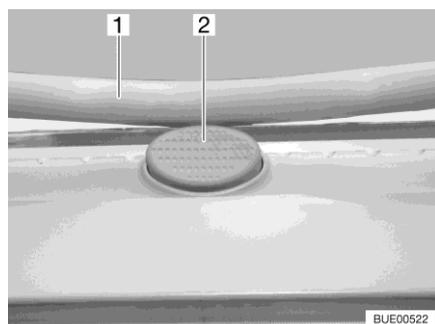

Fig. 86 Safety knob (Heki skylight)
- Press the safety knob (Fig. 86,2) and pull the bar (Fig. 86,1) down with both hands.
- Push the bar upwards with both hands until it is above the safety knob (Fig. 86,2).